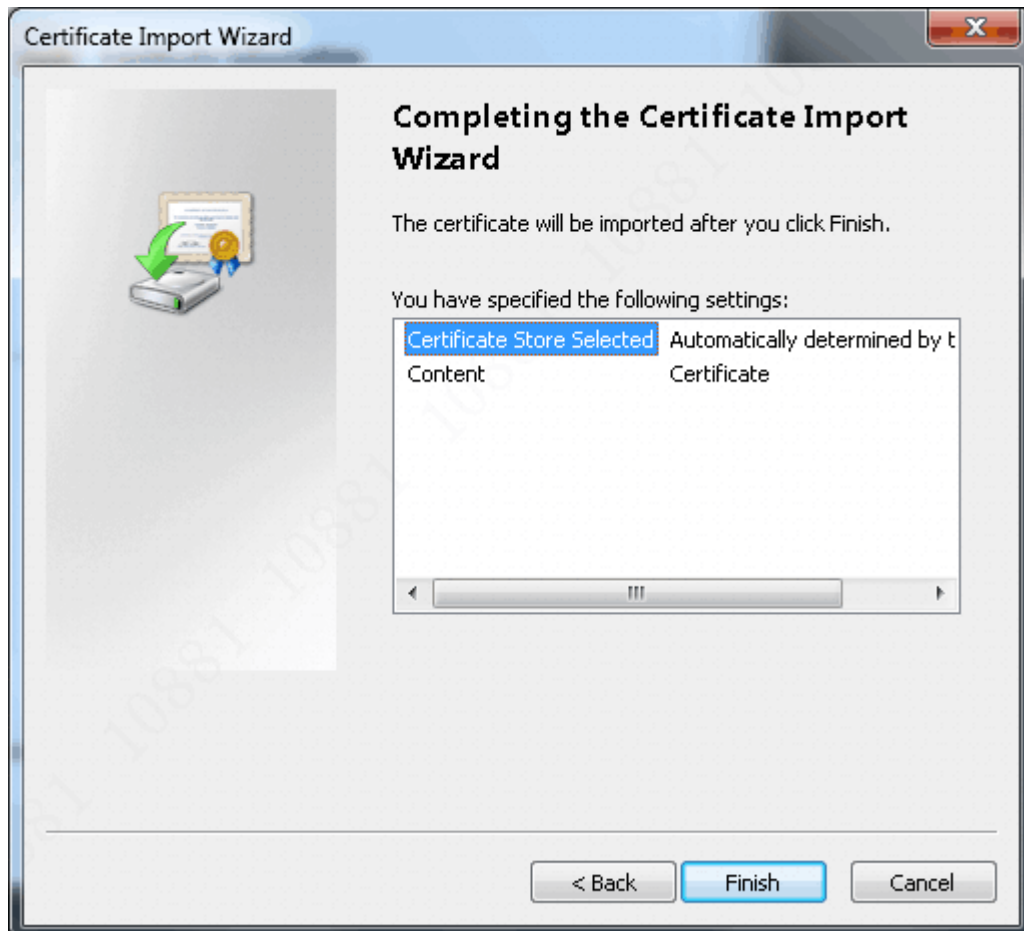

Figure 3-24
- Step 5 Select "Automatically select the certificate store based on the type of certificate", and click "Next". The system displays "Completing the Certificate Import Wizard" interface, as shown in Figure 3-24.